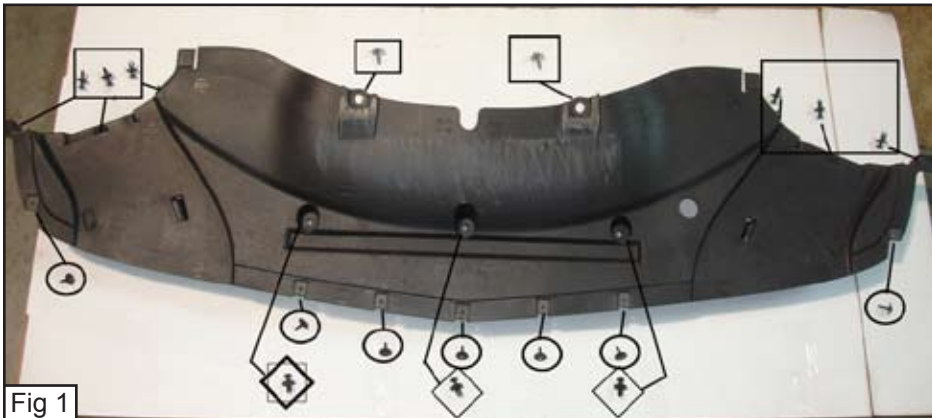

Fig 1
Remove the plastic cover from under the front of the vehicle, this gives you access to the underside of the front bumper. There are (9) plastic pop clips, (2) 10mm bolts and (7) 7mm bolts. (Fig 1) Remove the factory logos from the factory grille by reaching through the factory grille with your finger and depressing the clips on the backside of the logos while pulling the logo from the front of the vehicle. The clips are located on the outer ends and center of the logos. If you would like to reinstall the logos on the phantom grille, cut the tabs off the backside of the logos and use the supplied logo mounting plates with double sided tape. Reinstall the logos onto the phantom grille and secure with a 6/32" nylon lock nut and large black washer before installing the grille onto the vehicle.